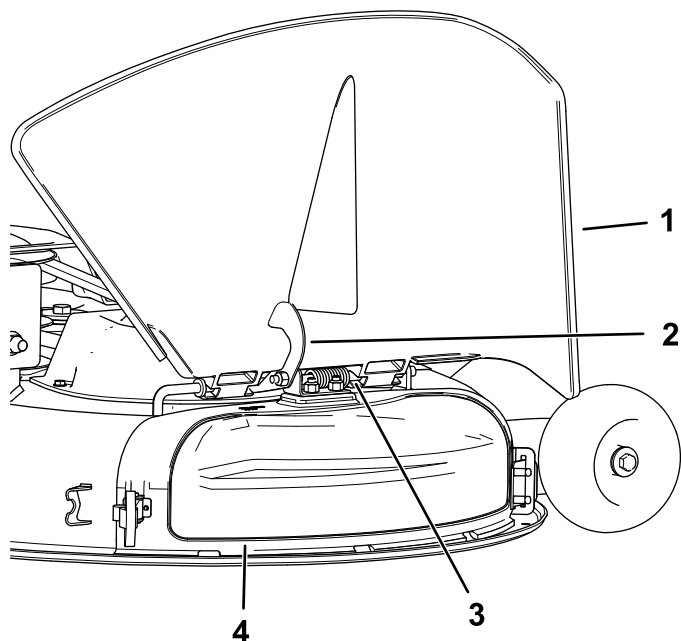

Figure 16
4. Release the hook-shaped latch on top of the discharge cover from the pivot rod (Figure 16).
5. On the top of the discharge cover, engage the hook-shaped latch around the pivot rod of the deflector assembly (Figure 16).